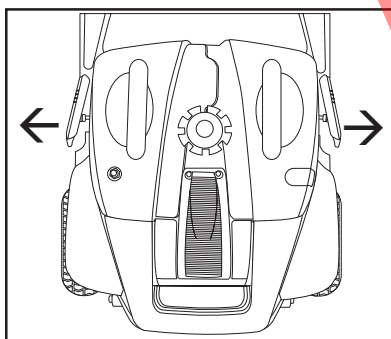

Figure 15. Battery Pack Locks
3. Disengage both battery pack locks by pulling them gently away from the scooter. See figure 15.